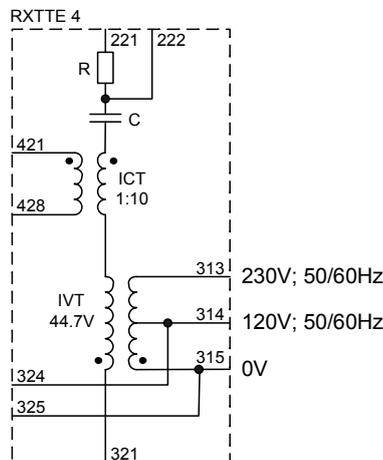

Figure 1: Voltage injection unit RXTTE4 with its main internal components
The injection unit RXTTE4 is used to inject a fundamental frequency AC voltage signal (i.e. either 50Hz or 60Hz depending on the actual machine rating) to the rotor winding and its associated electrical circuit. Principal internal RXTTE4 drawing is shown in Figure 1.
- Internal voltage transformer (i.e. IVT) will produce 44.7V on the secondary side when it is supplied from either 120V AC or 230V AC source as shown in Figure 1; if supply voltage magnitude is different from these values, induced secondary voltage magnitude will also vary accordingly. Note that it is preferred to have injection voltage close to above stated values otherwise the resultant injection current can be too small to be measured.
1. Total injected current I_{inj} (i.e. including all harmonic components) which flows through the RXTTE4 into the rotor must be smaller than 115mA in order to use the internal resistor. In practice it might be easier to measure voltage across the internal 220 Ω resistor instead (i.e. between terminals 221 and 222 on the RXTTE4 injection unit, see Figure 1). If this voltage is bigger than 25V external resistor must be used. Note that the used voltmeter shall be able to measure the total RMS voltage (i.e. including all harmonic components).